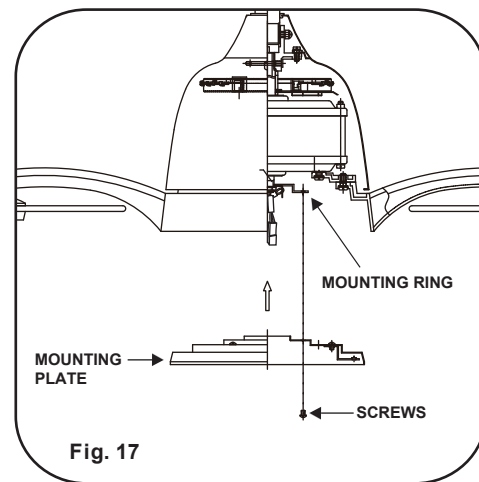

Fig. 17
Step 2. Place the key holes from the mounting plate over the 2 screws previously loosened from the mounting ring, turn mounting plate until it locks in place at the narrow section of the key holes. Secure by tightening the 2 screws previously loosened and the one previously removed. (Fig. 17)